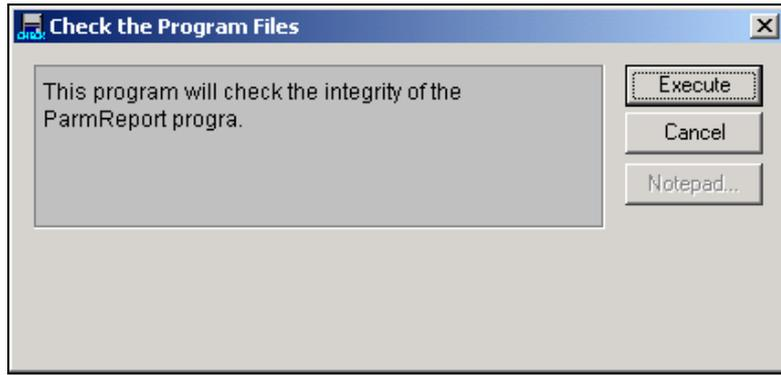

Figure 6-3. "Alteration check" screen
5. When the screen in Figure 6-3 is displayed, click the < execution > button.